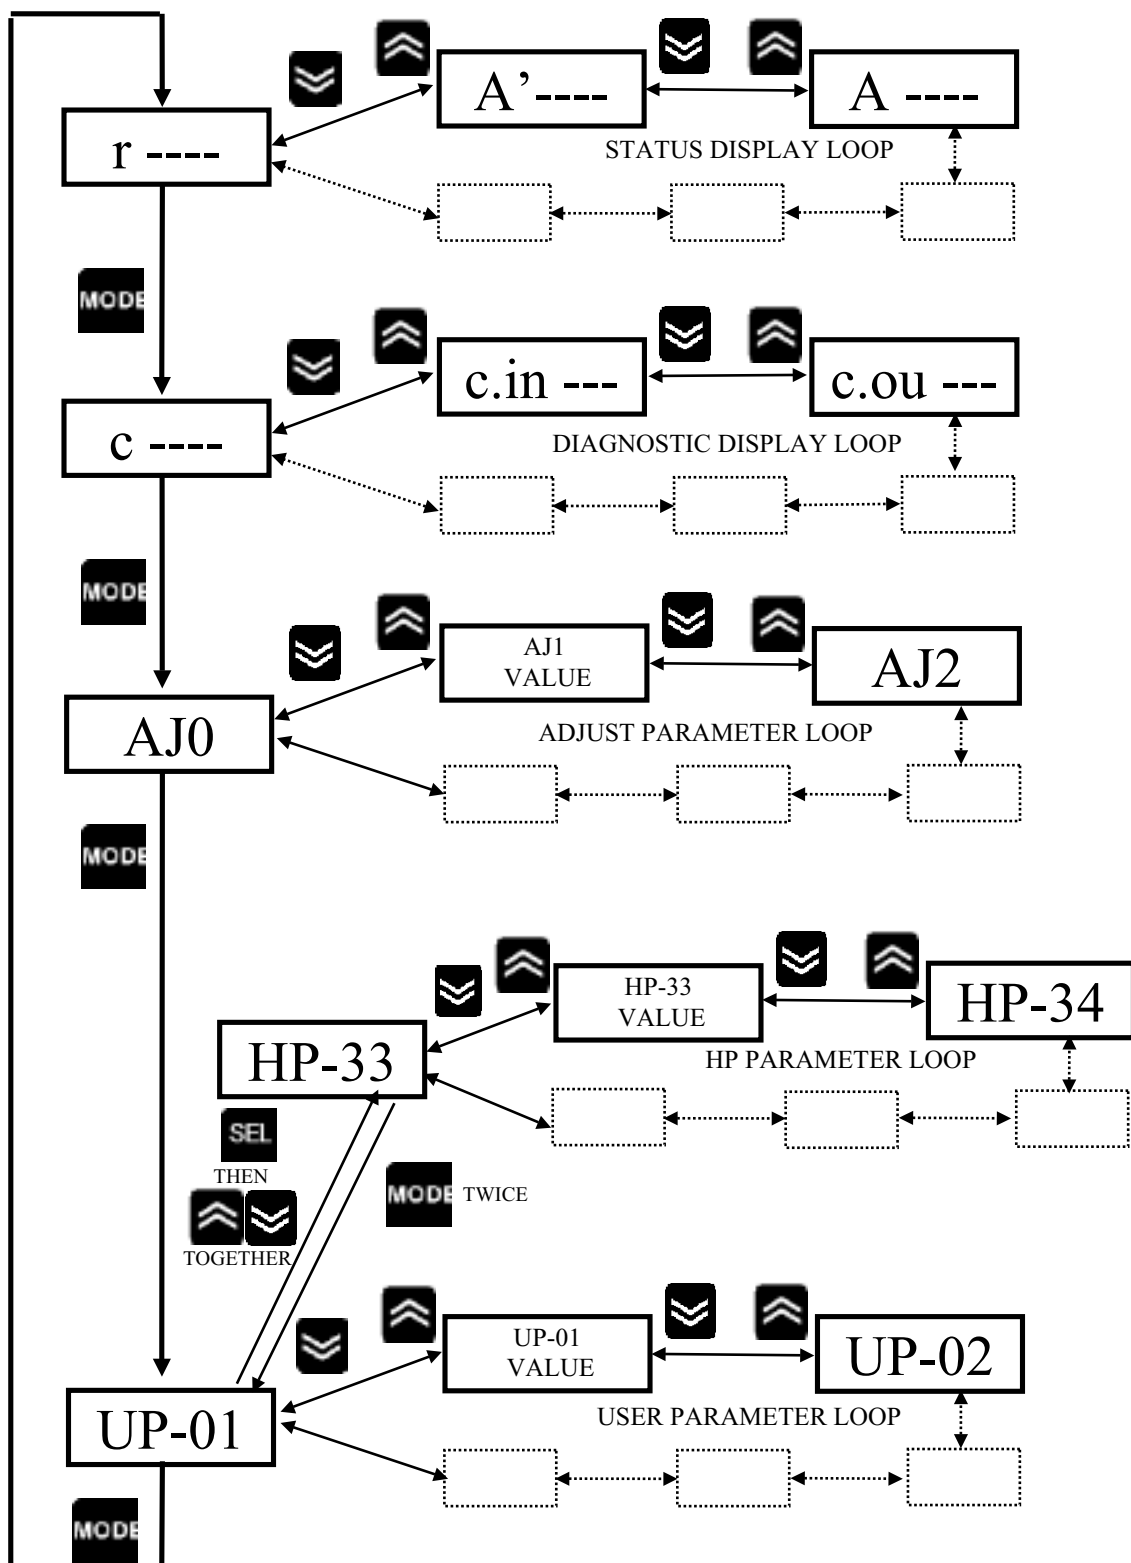

Figure 3.2 - Main Menu Loop and Minor Loops
The menu structure for programming the driver consists of a main menu loop with several minor menu loops and the Special Menu. The main menu loop and partial sections of the minor loops are shown in **Figure 3.2** below.
- Navigate the main menu using the    keys to get the parameter name to be changed in the display. See **Figure 3.2**.